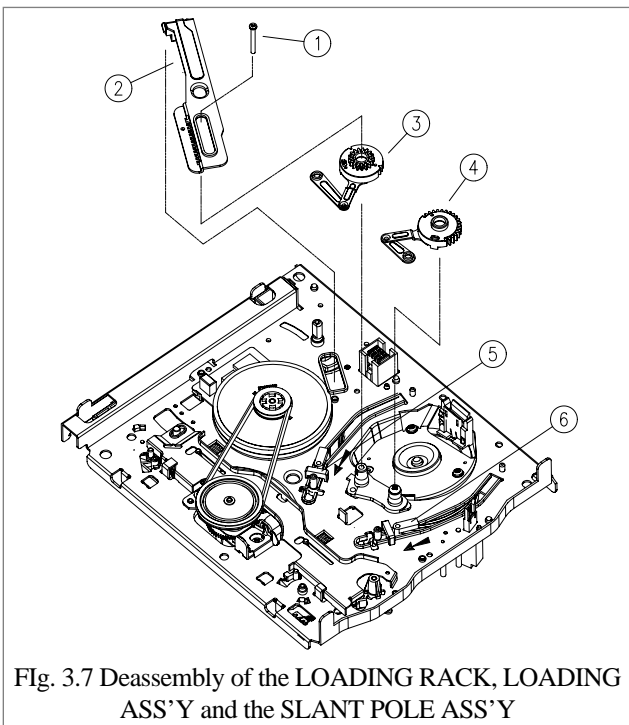

Fig. 3.7 Deassembly of the LOADING RACK, LOADING ASS'Y and the SLANT POLE ASS'Y
4. Deassembly of LOADING RACK, LOADING ASS'Y, S/T SLANT POLE ASS'Y (Fig. 3.7, 3.8)
- Turn out the DECK MECHANISM and remove the LOADING RACK ② after unscrewing the SCREW ①.
- Disintegrate the R LOADING AS ③ and L LOADING AS ④.
- Disintegrate the S SLANT POLE AS ⑤ and T SLANT POLE AS ⑥ by moving those part in arrow direction.